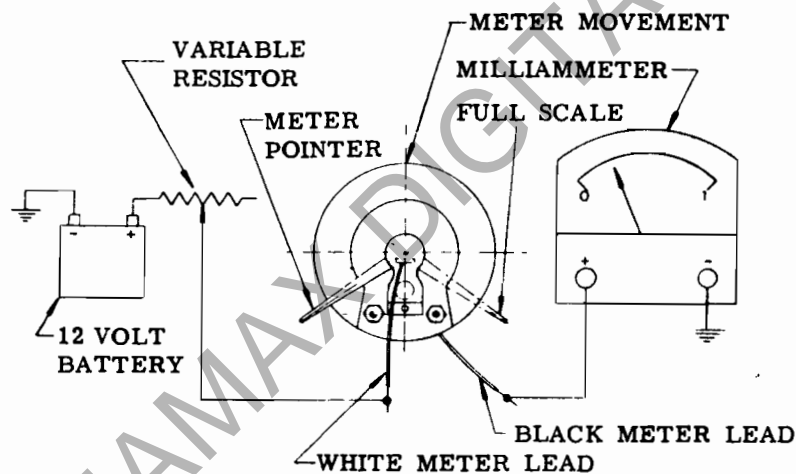

FIGURE 4
TESTING THE METER MOVEMENT (See Fig. 4 on Page 17).
2. Connect battery, variable resistor, meter movement and milliammeter, as shown in Fig. 4.
TESTING THE METER MOVEMENT (See Figure 4)
2. Connect battery, variable resistor, meter movement and milliammeter as shown in Fig. 4.